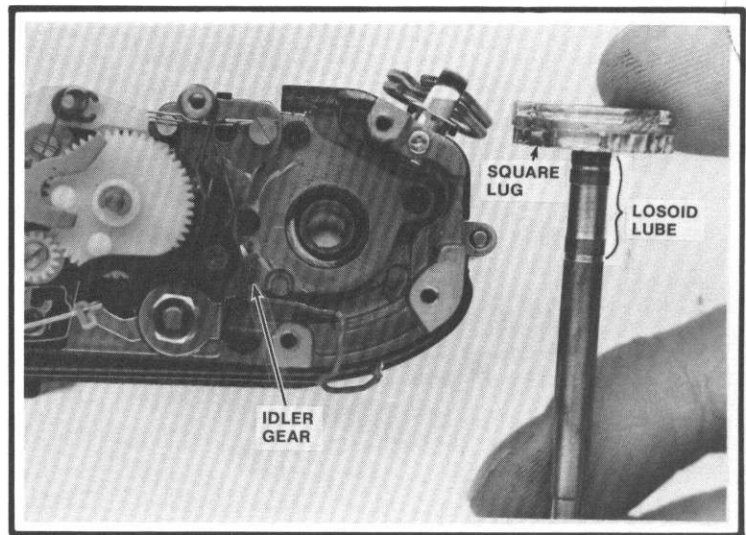

Figure 74
5. Lubricate the winding shaft as shown in Fig. 74 with losoid grease.
7. Seat the winding shaft with one of its three square lugs passing into the cutaway section of the idler gear, Fig. 74.